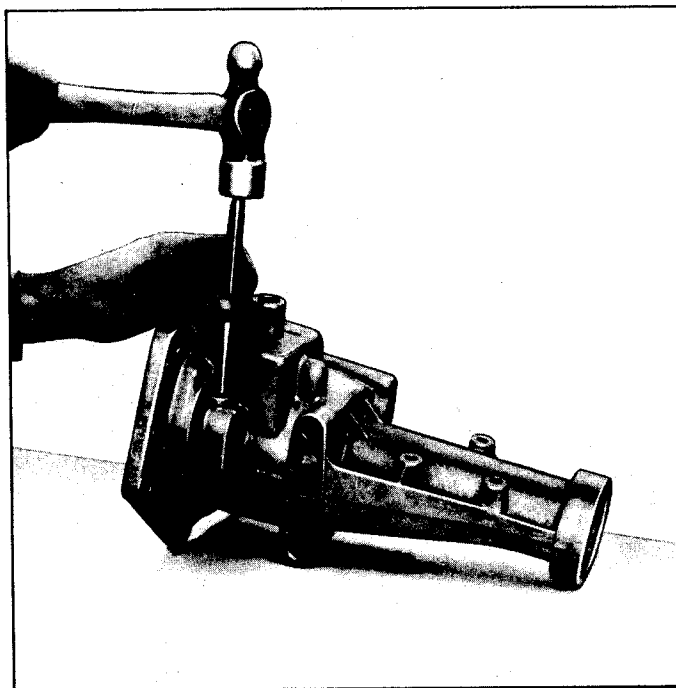

Fig. 7B-17K--Removing Reverse Idler Shaft Roll Pin
2. Remove bushing using Tool J-21465-17 with Handle J-8092. Drive bushing from rear of extension housing (Fig. 7B-14K).
4. Coat I.D. of bushing and seal with transmission lubricant. Install new seal using Tool J-21359 (Fig. 7B-15K).
2. Using a new seal, install new seal into retainer using Tool J-21359 until it bottoms in bore (Fig. 7B-16K). Lubricate I.D. of seal with transmission lubricant.